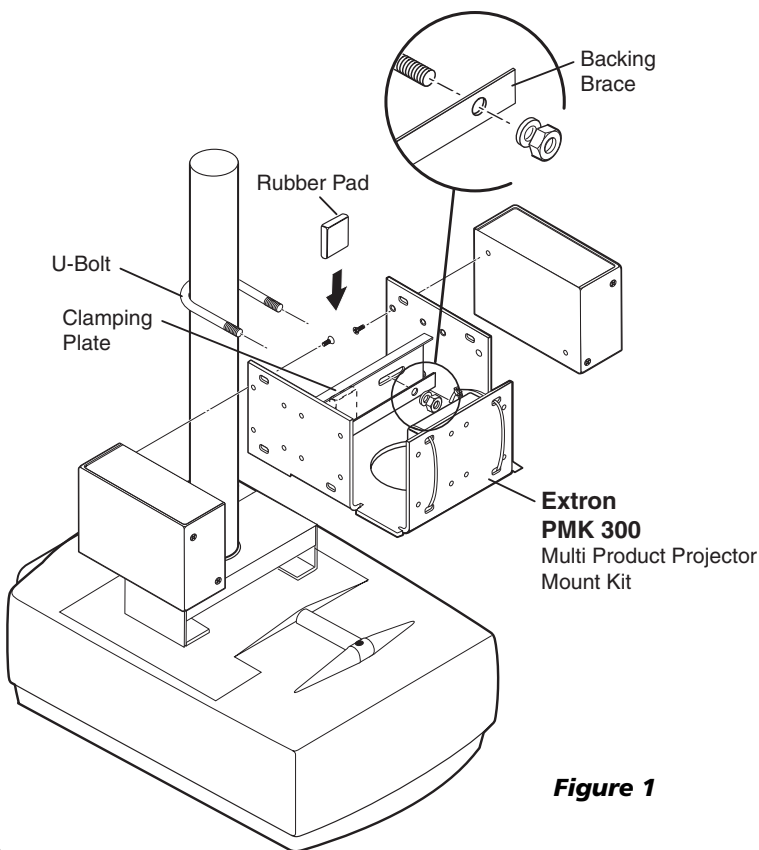

Figure 1
2. Mount the device(s) to any of the bracket's three mounting plates. The device(s) can be vertically mounted facing either up or down, whichever is most convenient. See figure 1 on the other side of this card.